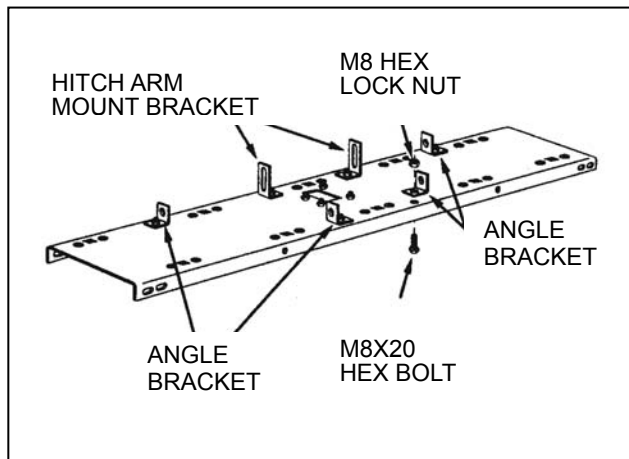

FIGURE 2
2. Turn the tine shield upside down. See figure 2.
3. Assemble two (tall) hitch arm mount brackets and two (short) angle brackets to the bottom of the tine shield. Fasten the brackets to the four round holes at the rear of the tine shield using four M8x20 hex bolts and M8 hex lock nuts. Do not tighten yet. See figure 2.
4. Assemble two angle brackets to the round holes in the bottom of the tine shield at the front. Use two M8x20 hex bolts and M8 hex lock nuts. Do not tighten yet. See figure 2.